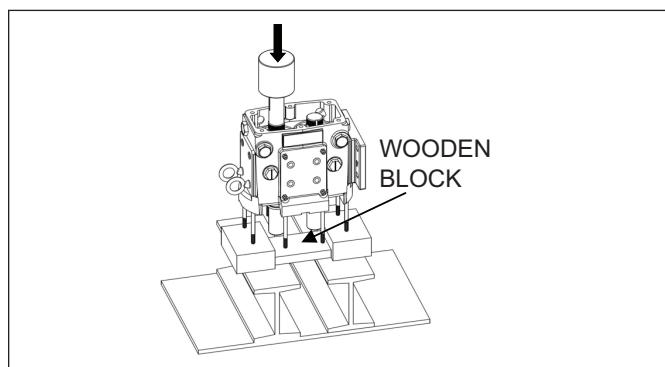

Figure 42. Pressing Shafts from Gear Case
4. Set the gear case in a press with the fluid end side facing down (*Figure 42*). Use a wooden block to protect the shafts from hitting the ground when pushed out. Once the protective block is in place push the shafts out of the gear case. Reference *Table 4* for the required force (in tons) needed to press the shafts out of the gear case.